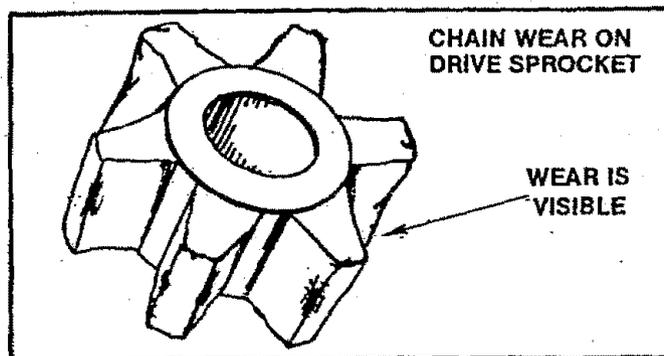

Figure 46
- Inspect the sprocket regularly for wear. A worn sprocket will cause the chain to run erratically and will shorten the life of the bar and chain. Figure 46.